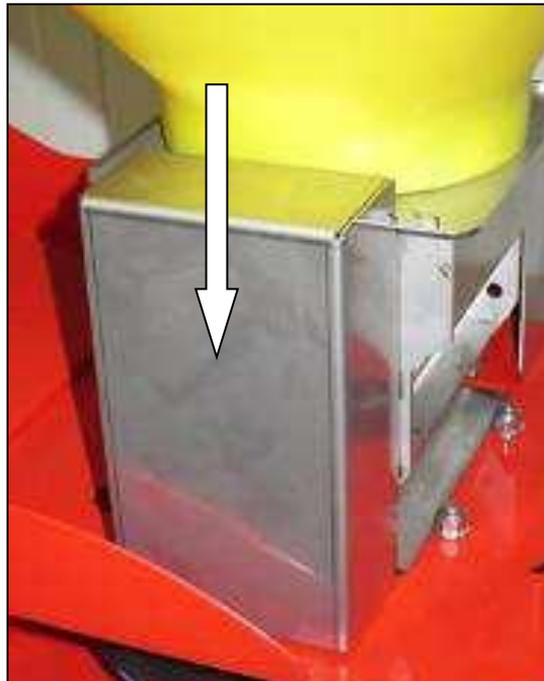

Fig.: 57
- Installing the cover hood for the drive rollers (Fig.: 57)